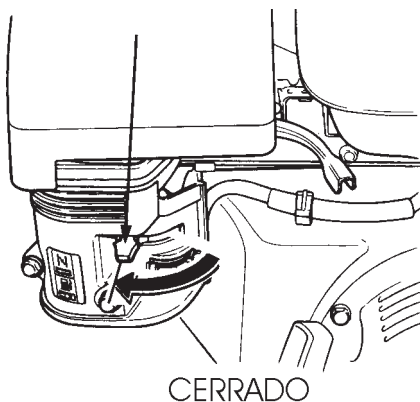

Figure 20. Engine Choke Lever (Closed)
4. Place the *choke lever* (Figure 20) in the "**CLOSED**" position if starting a **warm engine** or the **temperature is warm**.